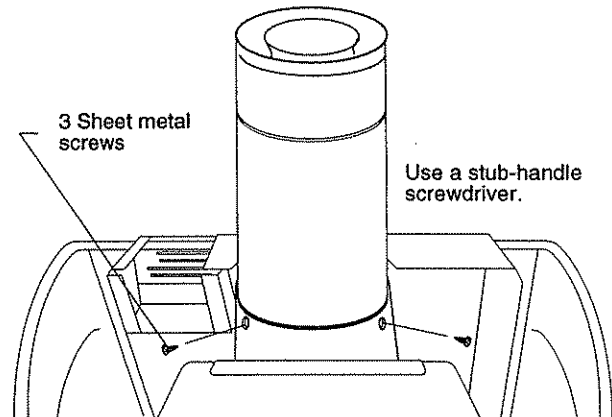

Figure 26 Install the Outer Adaptor.
3. Insert the Outer Adaptor pipe into the flue collar as previously fit and secure with three #10 x 1" sheet metal screws supplied in the parts bag. Fig. 26.